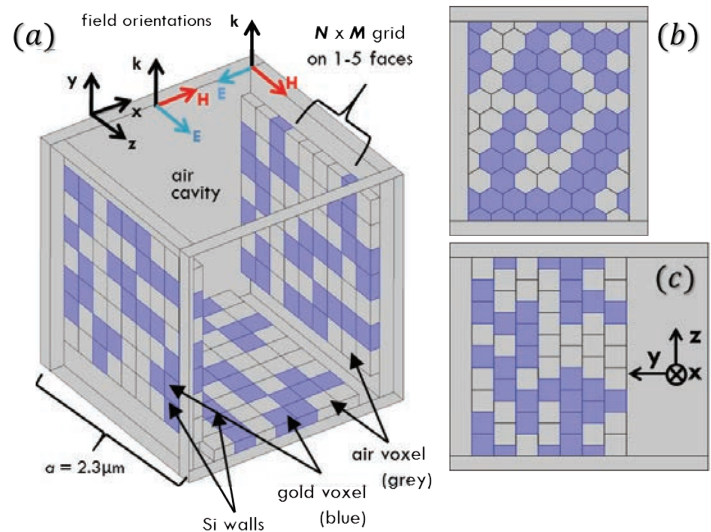

FIGURE 1. Sample voxel and cavity geometries, which can be used for the genetic algorithm.
there are so many possible geometrical configurations for the antenna that it was unclear how to identify the best design. For even the lowest-resolution design, 2^{40} (over 1 trillion) unique models could be generated (Figure 1). Gold and air voxels (cubes) are represented in blue and gray, respectively. Using a genetic algorithm (GA) routine, the COMSOL® software finds the